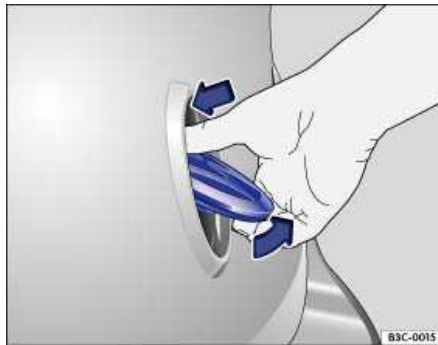

Fig. 34 Opening luggage compartment lid from the outside.
- Using your thumb, press the top of the Volkswagen emblem ⇒ fig. 34 and move the top of the emblem down. The luggage compartment lid opens automatically.